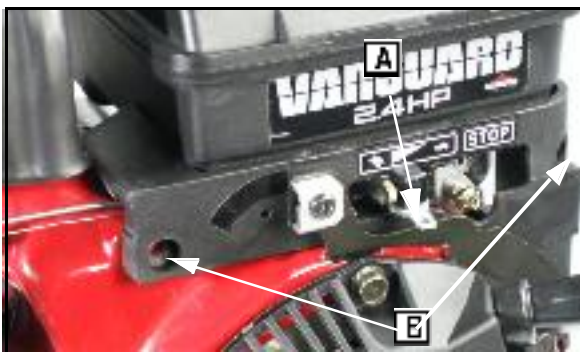

Fig. 2
5. Remove phillips screws ([B] Fig. 2) and trim plate.